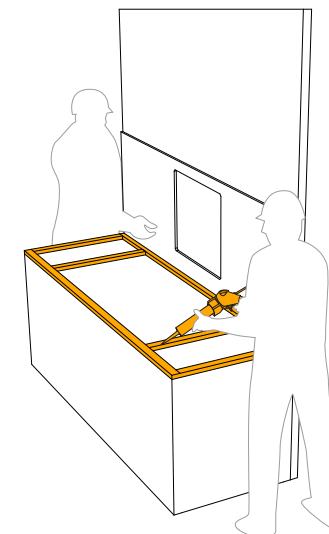

fig. 2
- Position the countertop vertically to one side of the kitchen units (fig. 2);